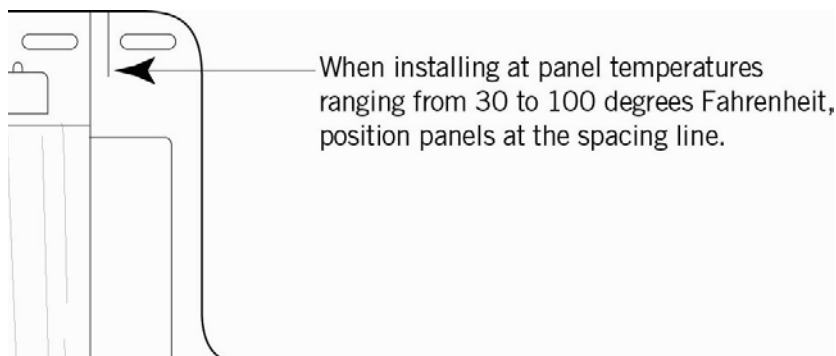

Figure 1
2. As with any plastic exterior building material, Tando panels will expand and contract with a change in temperature. Therefore, during installation it is necessary to position the panels properly to compensate for temperature effects. When installing at panel temperatures from 30 to 100 degrees Fahrenheit, position the next panel so that its upper left edge is on the spacing line (Figure 1).